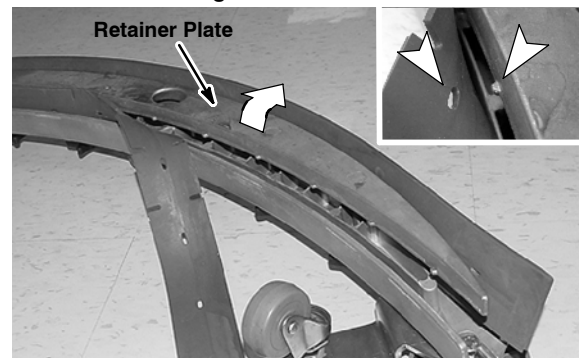

FIG. 60
4. To replace the front blade, remove the rear band and fully loosen the four squeegee assembly knobs, do not remove the knobs. Lift and tilt the retainer plate to access the front blade (Figure 60). Rotate the front blade to a new wiping edge and return the retainer plate. Make sure the retainer plate tabs engage the blade slots. Reinstall the band then retighten the knobs.